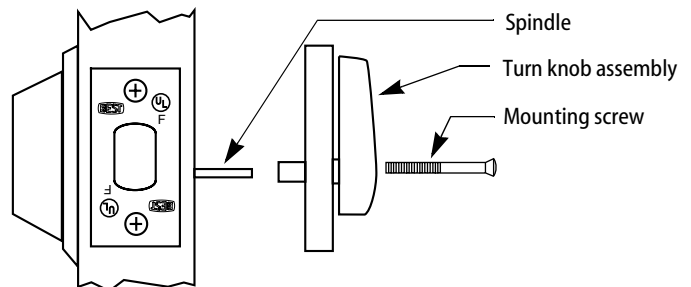

Figure 9 — Installing the inside trim
- 1 Break the spindle at the appropriate notch to suit the installation as shown in Figure 9.